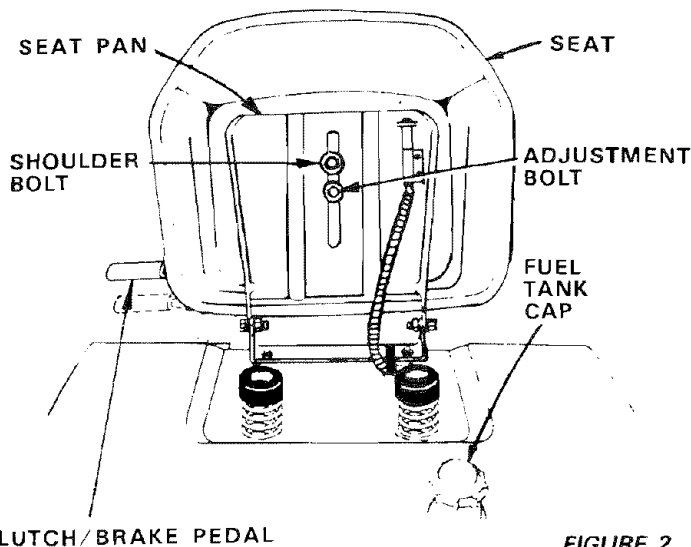

FIGURE 2
Seat position should be adjusted forward or backward so that the operator can comfortably reach Clutch/Brake Pedal and safely operate the tractor (Fig. 2).
- Place seat on seat pan. Screw hex head bolt, lockwasher and flat washer into seat (Fig 2). Screw shoulder bolt and flat washer into seat (Fig 2). Hex bolt, shoulder bolt and washers found in bag of parts (shown full size page 6).